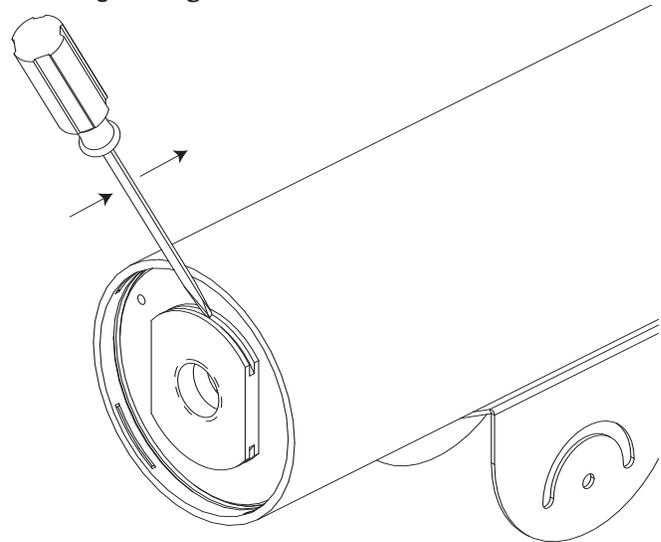

Figure 2: Removing Cradle Assembly
2. Place the blade of the screwdriver under the lip of the raised section in the rear cap, gently push the screwdriver against the housing. Pull the cradle from the housing. See **Figure 2**.